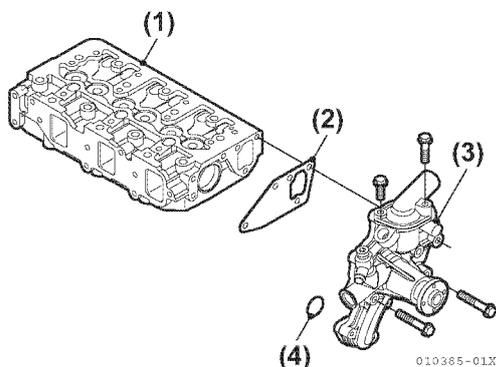

**Figure 5-34**
27. Remove the fuel injection line (Figure 5-32) thru (Figure 5-34):